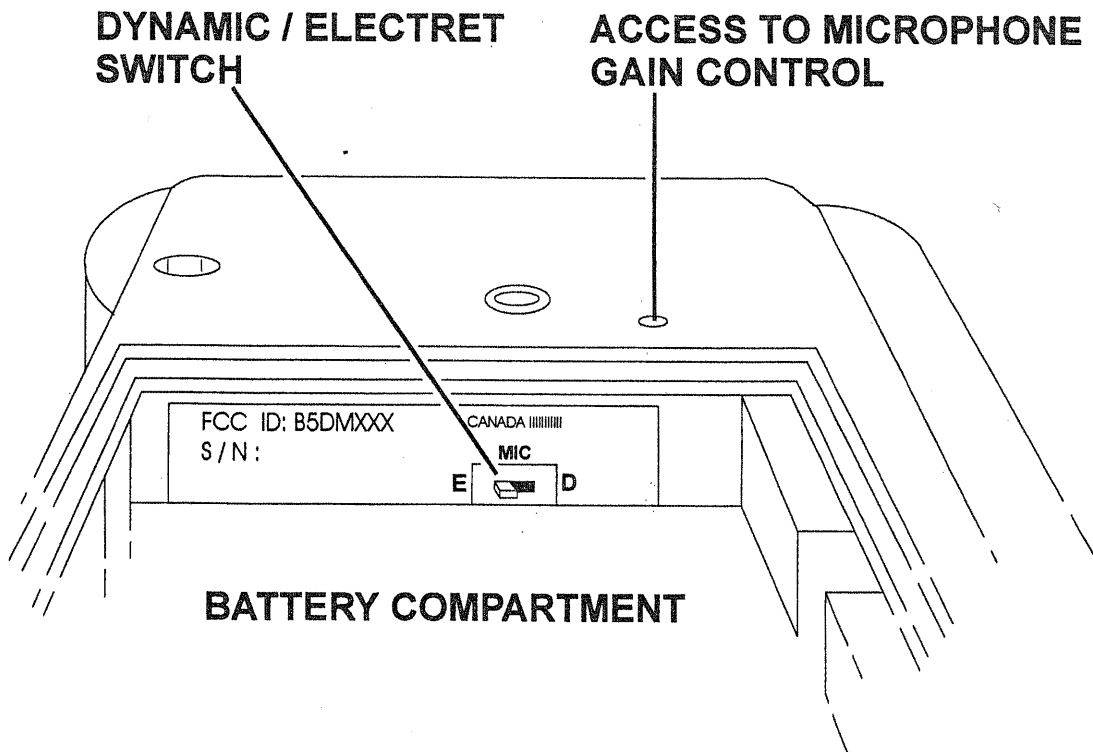

Figure 7
**INTERNAL CONTROLS (Refer to Figure 7)**